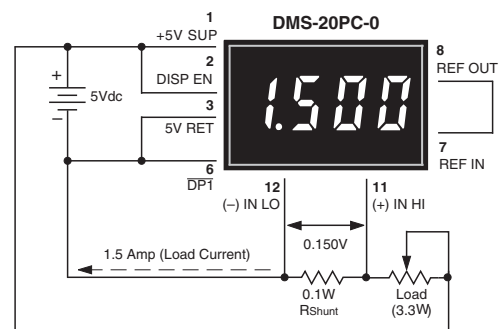

Figure 9. Basic DC Ammeter Circuit
7. Digital Ammeter: Digital ammeters are finding ever-increasing usage because analog-style ammeters (moving-vane types) now cost roughly the same as their digital counterparts. Additionally, analog ammeters are not nearly as rugged as modern digital panel voltmeters. Figure 9 illustrates a typical ammeter application. The circuit uses a ±200mV input meter — the preferred range for most ammeters — to measure the voltage developed across a 0.1Ω current shunt. The circuit shown represents a basic ammeter connection diagram. Click here to view a detailed application note describing digital dc ammeters.